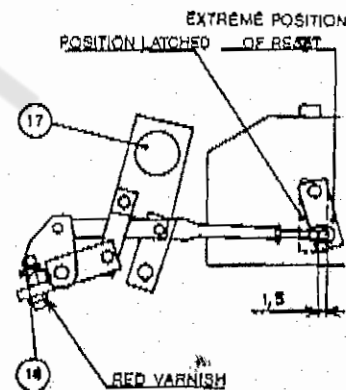

Fig. 14
- 1) Breaker equipped with signal indication with memory for overload and short circuit release (with or without indication.) (Fig. 14).
- a) Adjustment. When breakers are equipped with this accessory, it is necessary to place breaker in open position and adjust screw (16) to effect latching the release. A very distinct click indicates latching. To insure a margin of safety, unscrew $\frac{1}{4}$ of a turn.
- 1) Adjustment. With the breaker in the open position and the release bar latched as illustrated in Fig. 14, adjust screw (30) lengthening linkage until stirrup is against stop (29), then back off 1/2 turn.